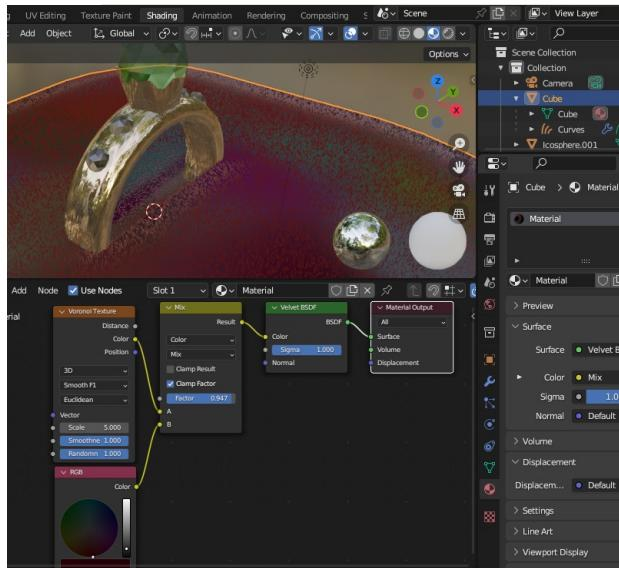

Figure 1-9 Velvet cushion material
To make the top of the mount cushion convex you need displace vertices downwards by increasing amounts, the nearer each is to a corner, if Figure 1-9 you can see the curve that I achieved. Change back to Vertex select, if it is still set to face select, and turn on Proportional Editing. Now select all four corner vertices of the top face and move them down using shortcut G then Z then LMB, in a similar way to the scaling you applied to the cube earlier. The three transformations; scale, move and rotate are so ubiquitous while modeling that I will refer to them throughout the book by their shortcuts rather than their menu path. You are aiming to form a nice convex surface, but you may get a better shape if you do this in several steps with different sizes or profiles for the Proportional Editing. I found that the Sharp profile was nearest to what I had in mind.
4. If you expand the Cube object in the Outliner Editor you will see that a new object has been added called Curves, as a child of Cube, as visible on the right of Figure 1-9. This has now become the selected object. Click on the Modifier Properties tab (blue wrench) and in the modifier called Generate Hair Curves, reduce the Control Points to **2**. In Set Hair Curve Profile, increase Radius to **0.005** and in Interpolate Hair Curves, increase the Density to **750**.
Add ▶ Texture ▶ Voronoi Texture then **Add ▶ Input ▶ RGB** then **Add ▶ Color ▶ Mix Color** mix the Voronoi and RGB and feed the result into the Velvet shader, adjusting the controls until you get an interesting result, the node arrangement is shown in Figure 1-9.